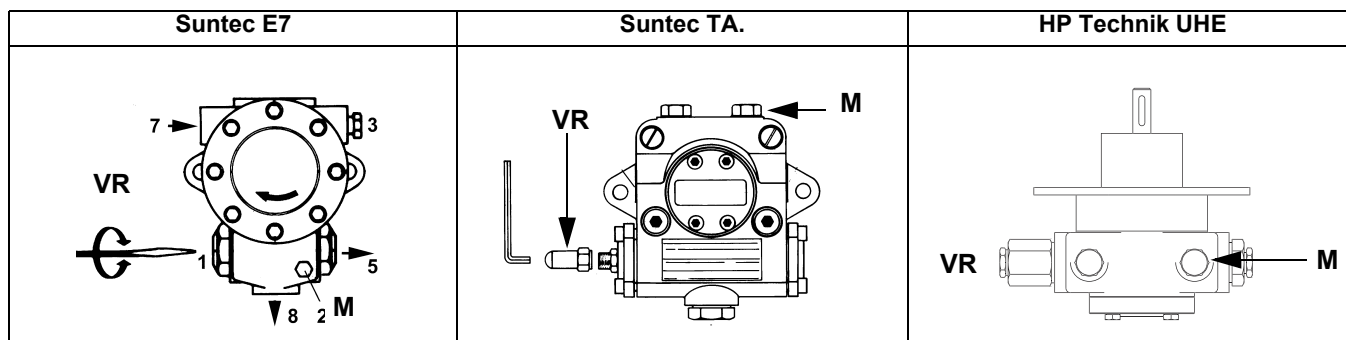
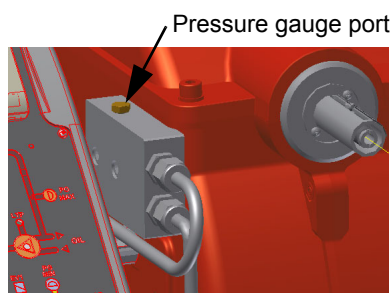

Fig. 5
Fig. 6
- 3 bleed the air from the **M** pressure gauge port (Fig. 5) by loosening the cap without removing it, then release the contactor.
- 5 Only if necessary, adjust the supply pressure as follows (see related paragraph); insert a pressure gauge into the port shown on Fig. 6 and act on on the pump adjusting screw **VR** (see Fig. 5) as to get the nozzle pressure at 20bar (Monarch or Fluidics nozzles - see page 36-38).